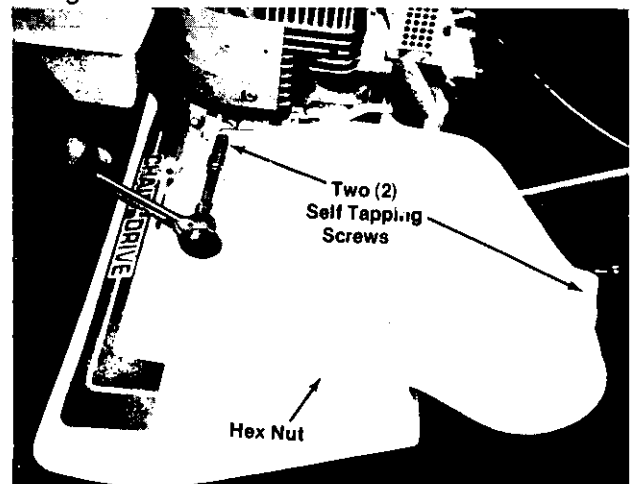

FIGURE 31.
1. Remove the belt cover, by removing two (2) self tapping screws, and one (1) hex nut. See figure 31.